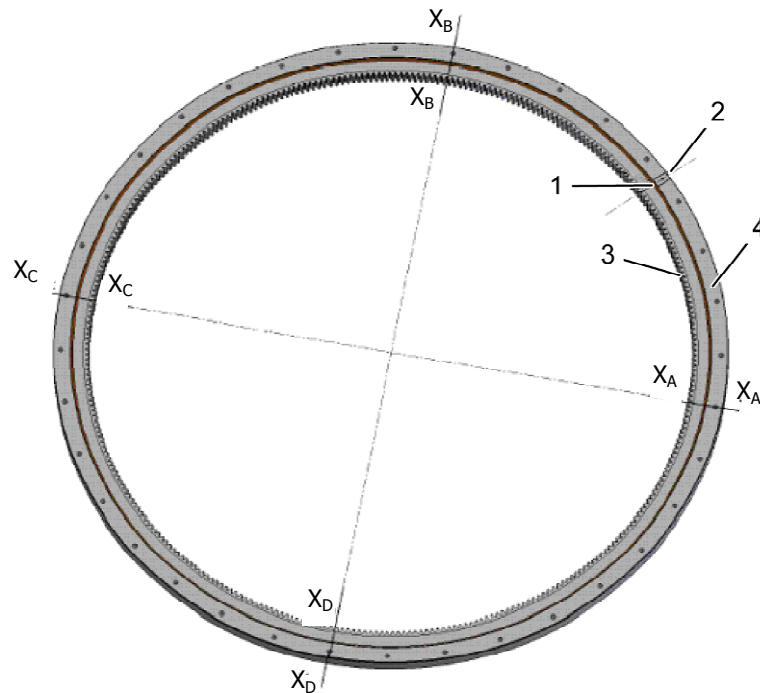

Fig. 36: Marking of the slewing ring
- Apply markings to the bearing in the X-planes (⇒ Fig. 36) A-A, B-B, C-C, D-D on the inner and outer ring before installation.